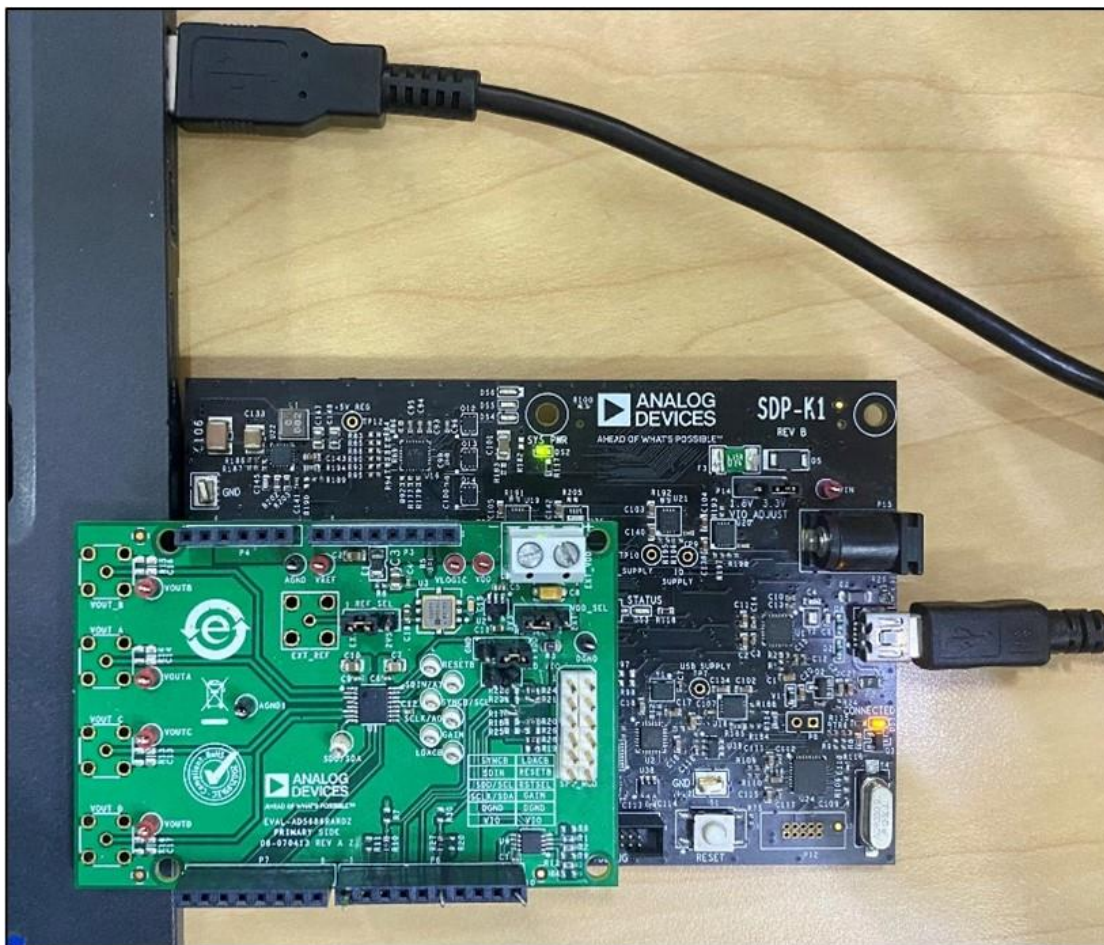

Figure 10 EVB, SDP-K1 and Laptop Connection
2. Connect the EVAL-AD5686RARDZ to the Arduino connector of SDP-K1 (EVAL-SDP-CK1Z) as shown in Figure 10.